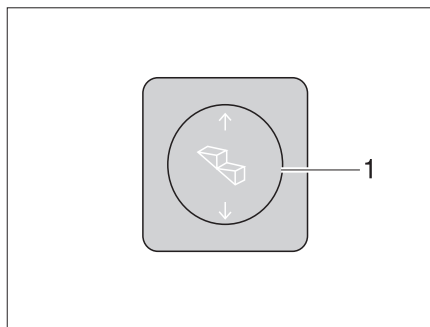

Fig. 8 Operating switch entrance step
- Extending:* ■ Press the rocker switch (Fig. 8,1) down until the entrance step has extended completely.
- Retracting:* ■ Press the rocker switch (Fig. 8,1) up until the entrance step has retracted completely.